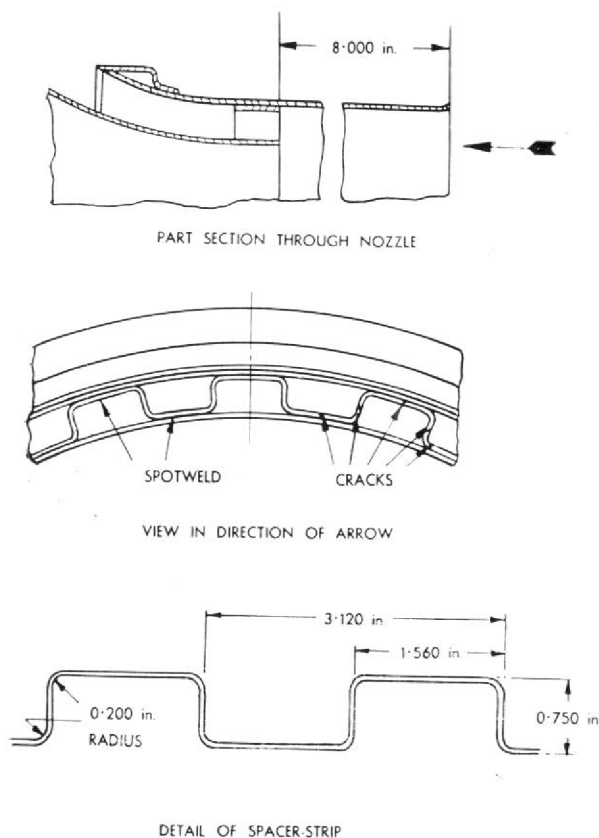

Fig. 5. Location of cracks in spacer-strip; positions for spot-welding replacement sections, and dimensions for making replacement sections.
Any propelling nozzle, pre-mod. 740 (fixed) (Ghost 48 Mk. 1 or 48 Mk. 2), in which the spacer-strip has become cracked at any of the positions indicated in Fig. 5, overleaf, may be repaired by fitting a complete new spacer-strip.
3. Refer to the table below, and select the spacer-strip appropriate to the assembly part number. Take four sections of the selected strip, and ensure that the surfaces to be welded are thoroughly clean. If a replacement strip is not available, suitable sections may be made up from local resources by using 18 S.W.G. steel sheet 0.900 inch wide, to Specification D.T.D.571, formed to the dimensions shown in Fig. 5.
to welding, and ensuring that the dimension of 8.000 inch, shown in Fig. 5 is maintained.